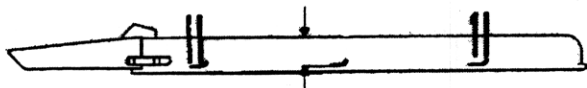

Figure 5
- Rotate each blade until the ends face forward and backward (Fig. 5). Measure from the inside of the cutting unit to the cutting edge at the front of the blade (Fig. 5), and remember this dimension.